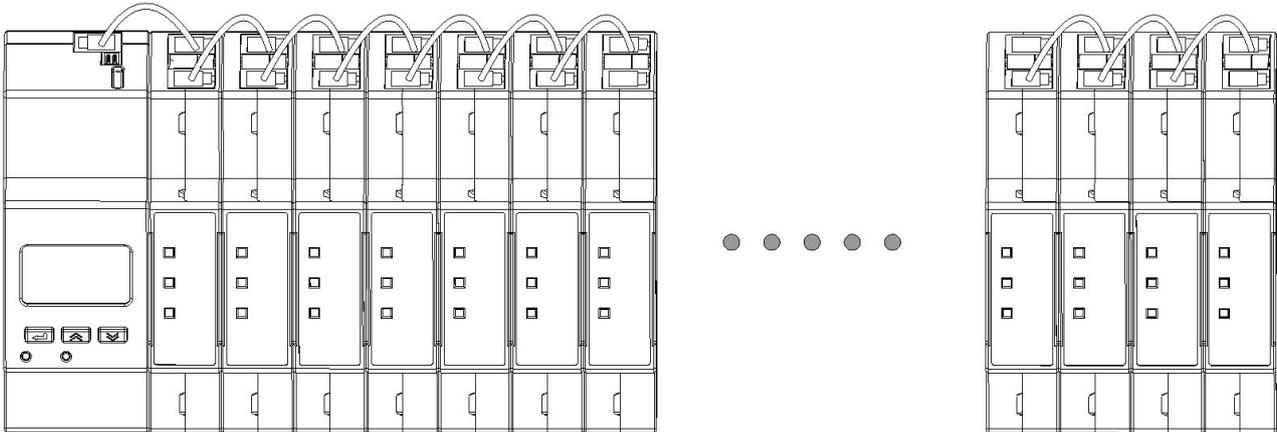

Fig 1 ADW600 effect picture
1. In the effect picture of ADW600 in Figure 1, the ADW600-M (-4G/-CE/-WF) gateway on the far left must be ordered separately.